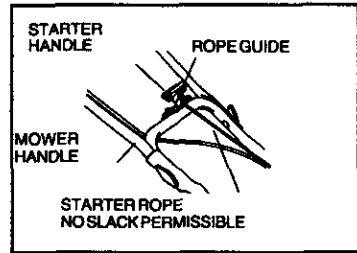

Figure 4
- D. With starter handle resting on rope guide (see Figure 4), check starter rope for slack. If there is any slack, pull more starter rope through starter handle and relocate left hand knot to eliminate slack.
③ CHECK OIL LEVEL: